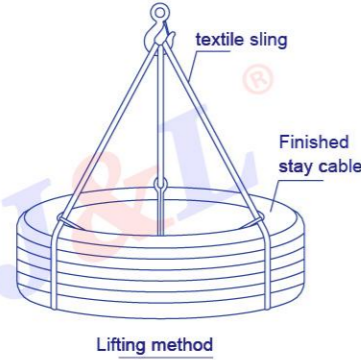

Figure 1
- 1. When loading or unloading, the lifting of the cables shall use textile sling to avoid any damage of the packing or cable surface. Suggest to use the three-point lifting method.(see figure 1).